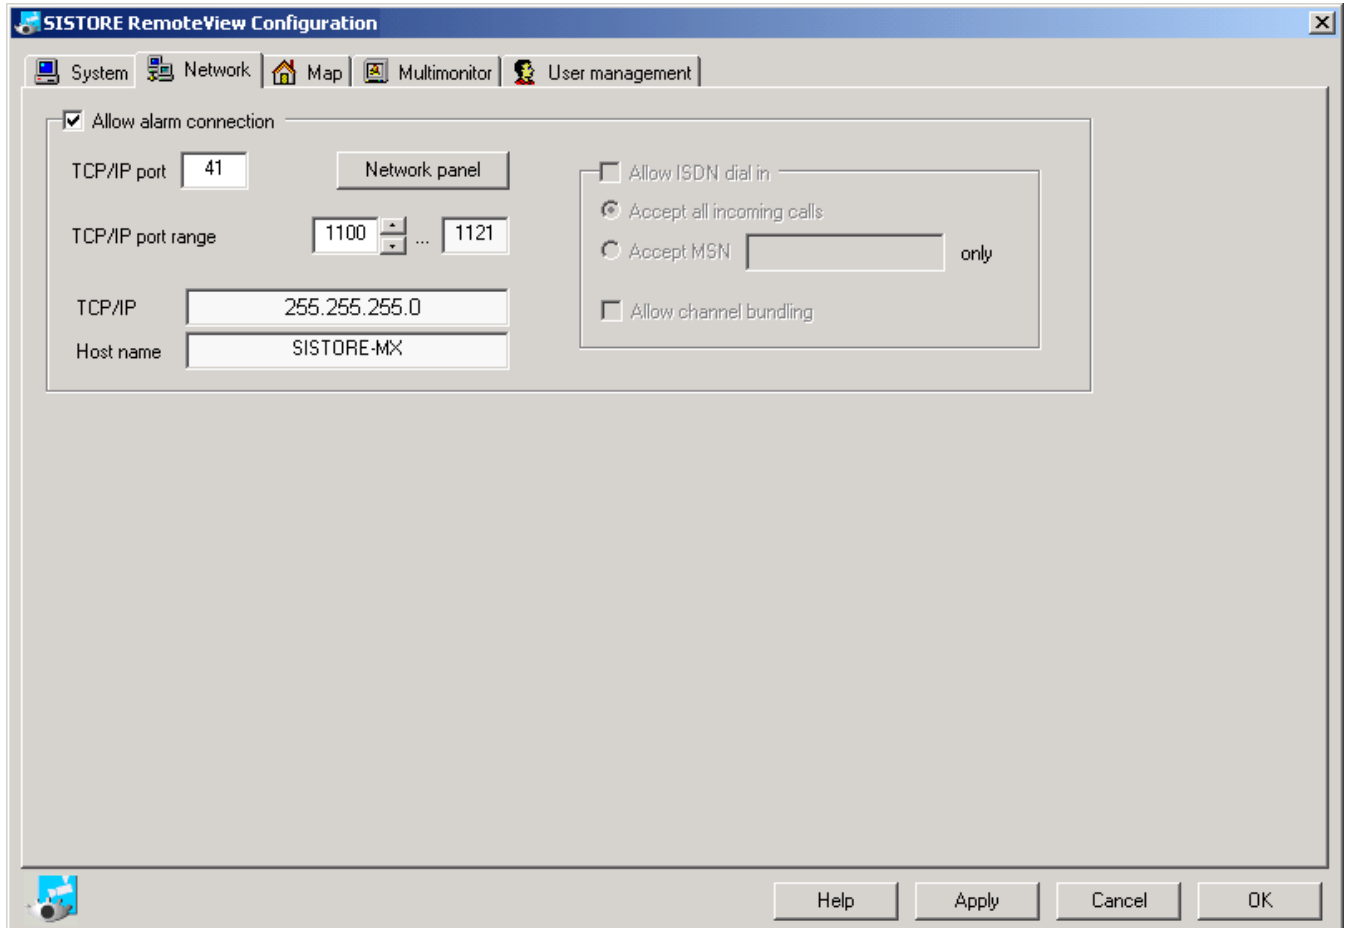

Fig. 192 SISTORE RemoteView – Network tab
1. Select the **Network** tab (see Fig. 192).